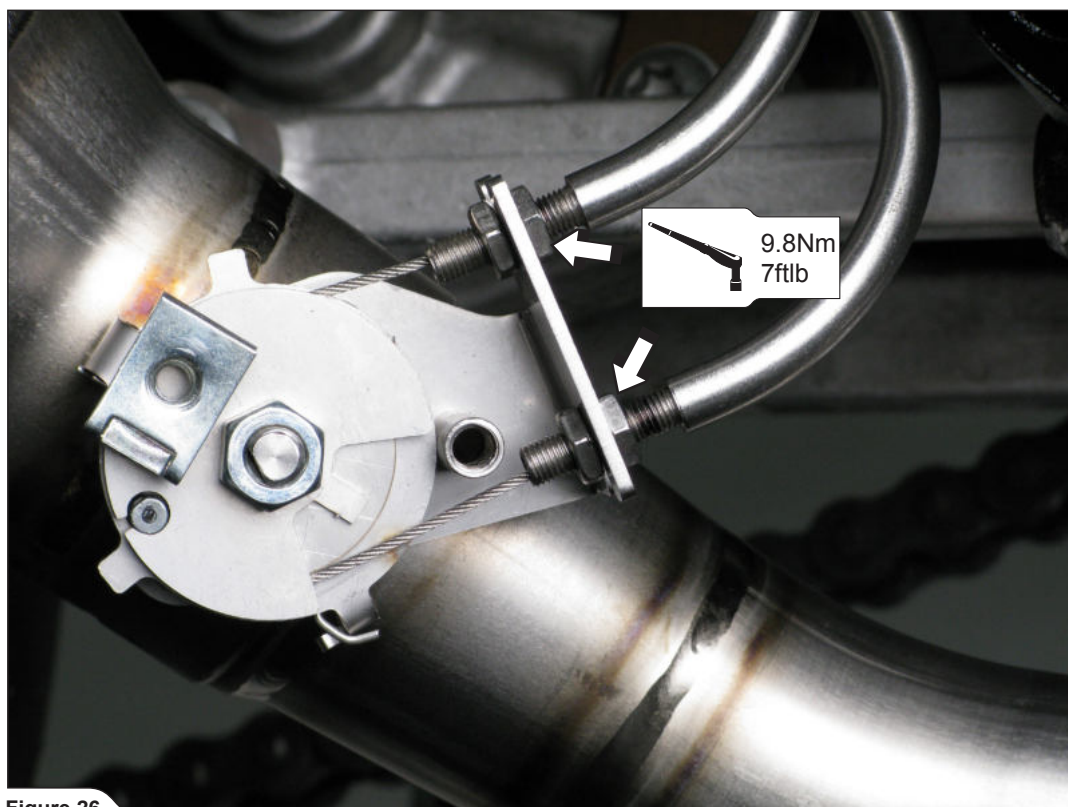

Figure 26
10. **For street legal Racing and Evolution only:** set the cable adjusters on the middle of the cable bracket, as shown. Tighten the cable adjusters nuts to a specified torque (**Figure 26**).